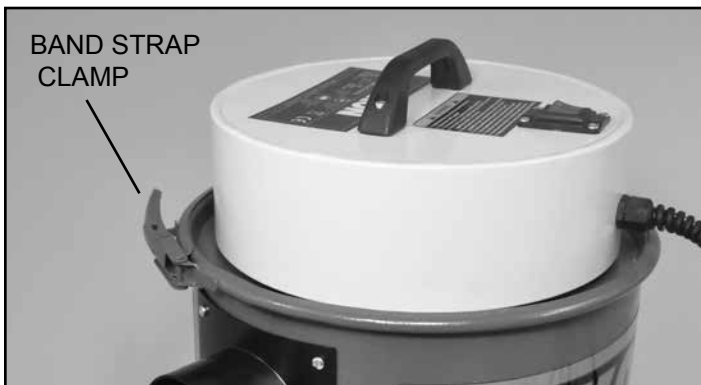

FIG. 4
4. Lift and install the lid and filter assembly on top of the canister body. Secure the lid to the body with the band strap clamp. FIG. 4.